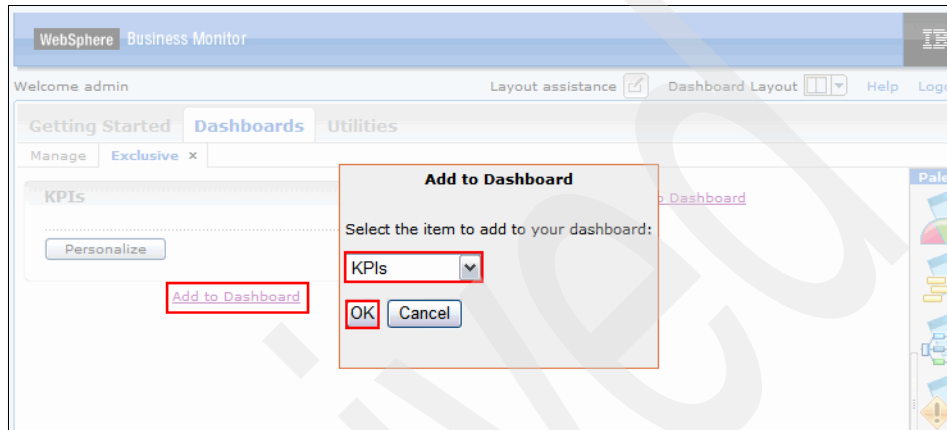

Figure 3-66 Adding data from a dashboard, if the dashboard layout outline is enabled
- From a dashboard, if the dashboard layout outline is enabled (Figure 3-66):